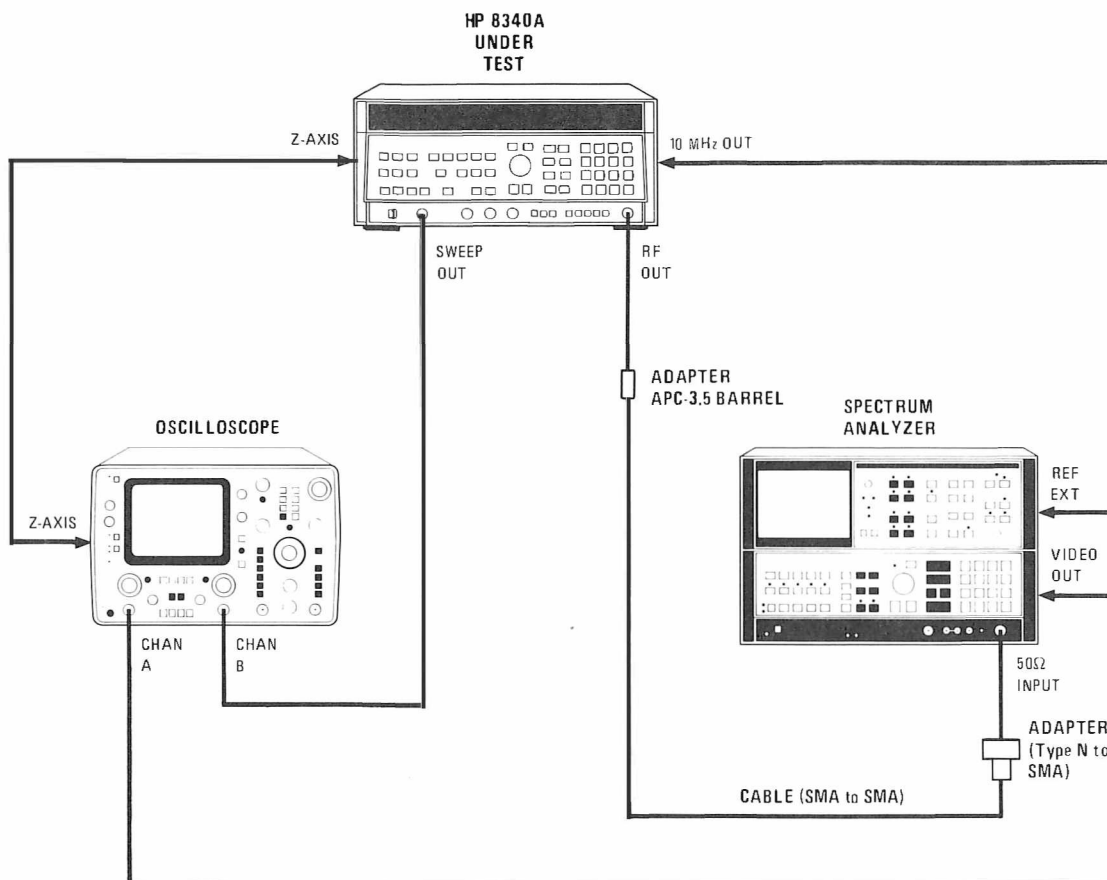

Figure 5-24. YO Delay Compensation Test Setup
4. Connect equipment as shown in Figure 5-24.